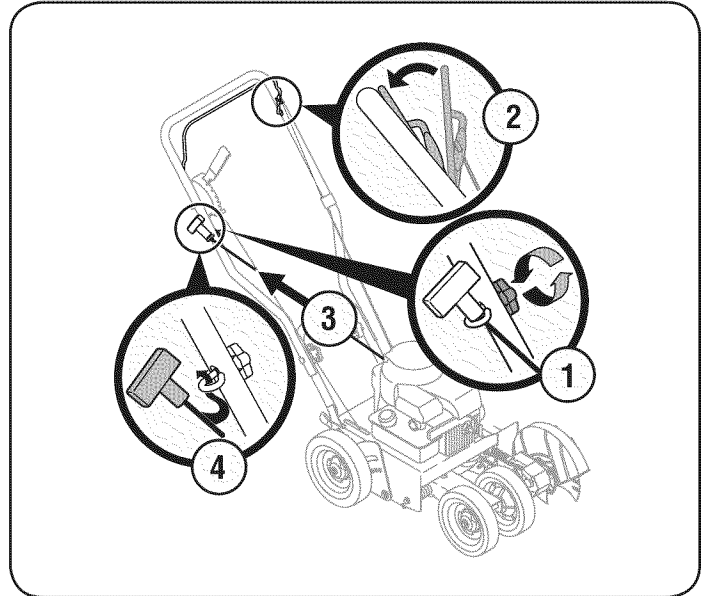

Figure 2
1. Locate the rope guide found on the right side of the upper handle. Loosen, but do NOT remove, the wing knob which secures the rope guide to the upper handle. See Figure 2.
NOTE: The starter rope will not pull out of the engine unless the blade control (refer to Figure 2) is depressed against the upper handle.